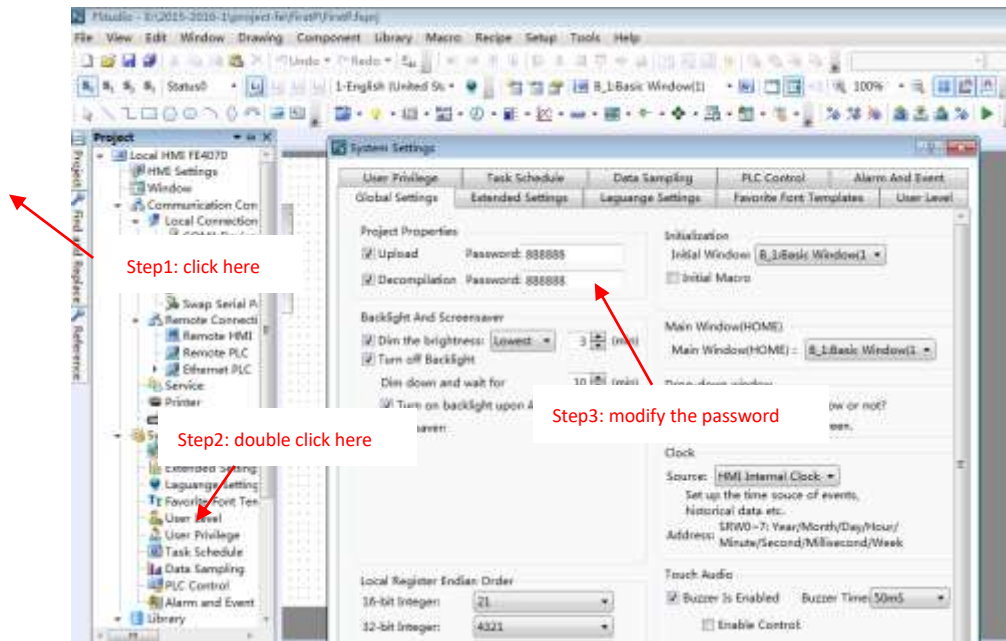

Fig. 22
② Enter the password for uploading, as shown in Fig. 21. The default password is “888888” which can be modified in “Global Settings”, as shown in Fig. 22.